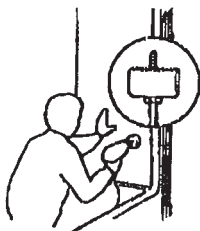

Fig. 6
- From the finished side of the unit you can use the proper hole saw to cut out the openings indicated by the pilot holes. Make sure your hole saw is of the proper size, and that location of each cut is proper. (Fig. 6)